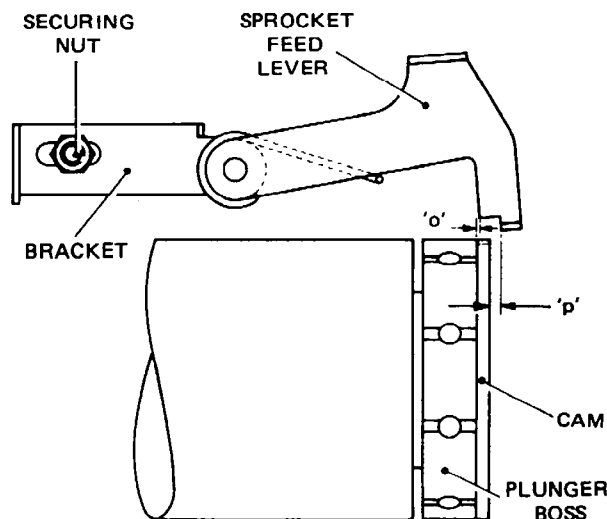

Fig. 4.15 SPROCKET-FEED LEVER MECHANISM (REAR VIEW)
- 17.1 Turn the platen and engage the left-hand sprocket feed lever (Fig. 4.15) with the notch in the cam. Turn the platen to retract the sprocket pins, and check that the clearance between the face of the plunger boss and the side of the lever (dimension 'o') is 0.004–0.012 inch. Repeat the check for the right-hand sprocket feed lever.